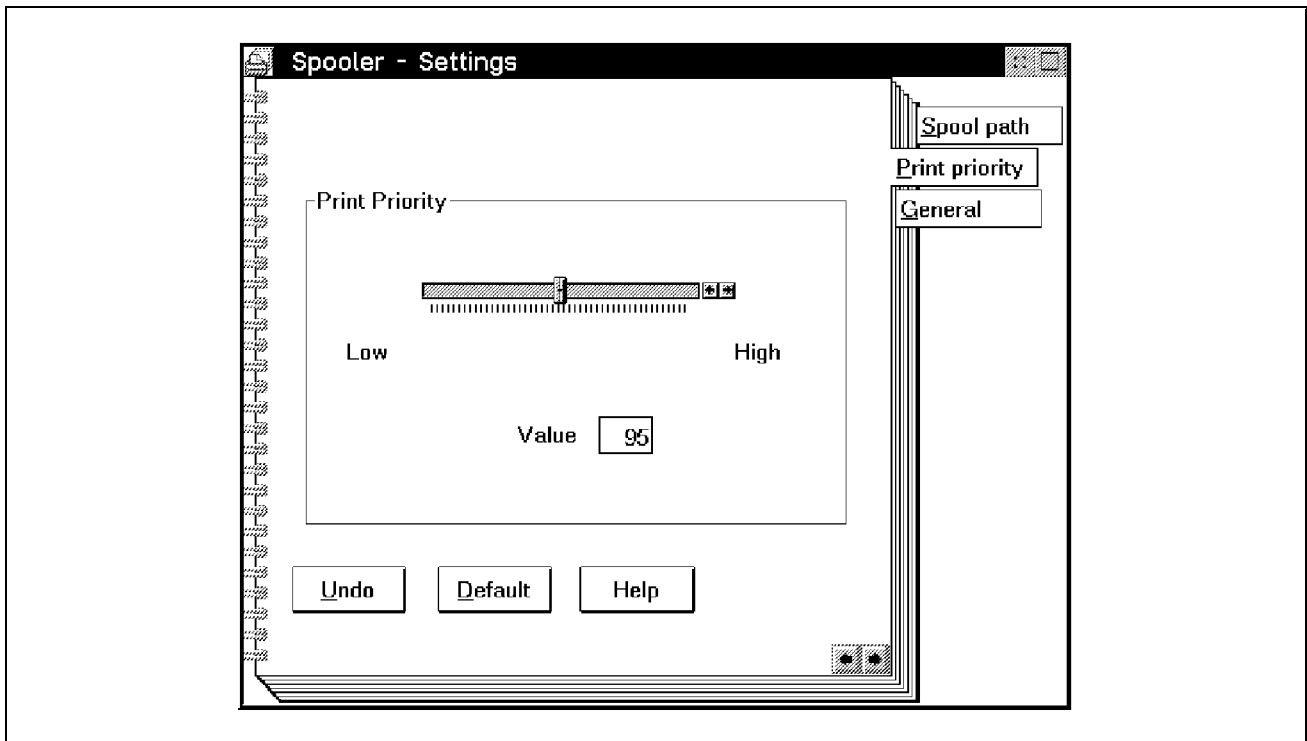

Figure 37. Print Priority Setting Page of The Spooler Object
- The Spooler Settings page appears as seen in Figure 37 on page 111.
This contains a slider that enables you to change the priority of print jobs in OS/2. The higher the value the higher the priority given to the print subsystem. For general use, the default priority is 95 and should not be changed. For print servers, the value can be increased to 150 and more, although the rest of OS/2 (for example the user interface) will slow down while print jobs are running. Figure 37 shows an example of the priority setting page.